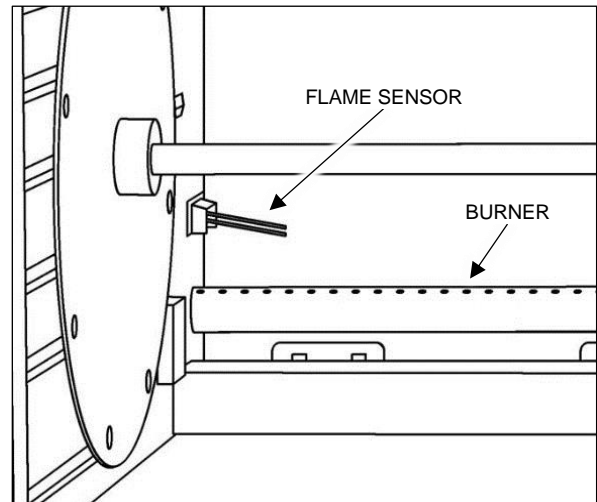

Figure 6-2
- If you are certain the rotisserie interior is sufficiently cool to touch, use a soft towel to gently wipe the top of the burner and carefully clean the flame sensor (Figure 6-2).